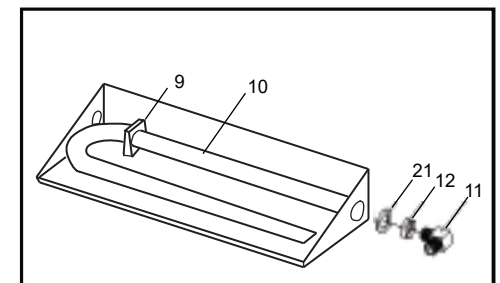

Figure 6. Burner bar connection
- Secure the intake end of the Dual burner bar (Part # 9) to the burner pan (Part # 8) through the knock-out hole selected (right or left hand) with the 3/8" brass orifice elbow (Part # 11), 3/8" locknut (Part # 12), and washer (Part #21) previously assembled in Step B (See **Figure 6**).